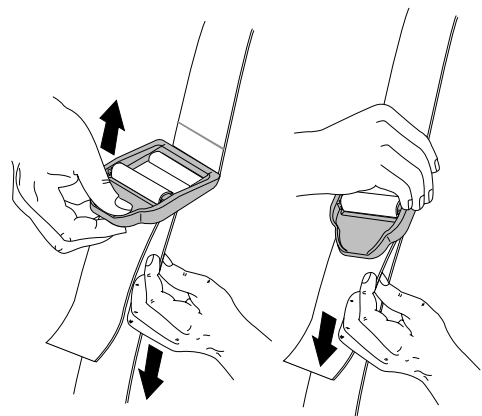

Fig. 6
- Lengthen the harness by pulling down on the strap and lifting the buckle end up (Fig. 6).
- Shorten the harness by pulling the strap back through the buckle while holding the buckle (Fig. 6).